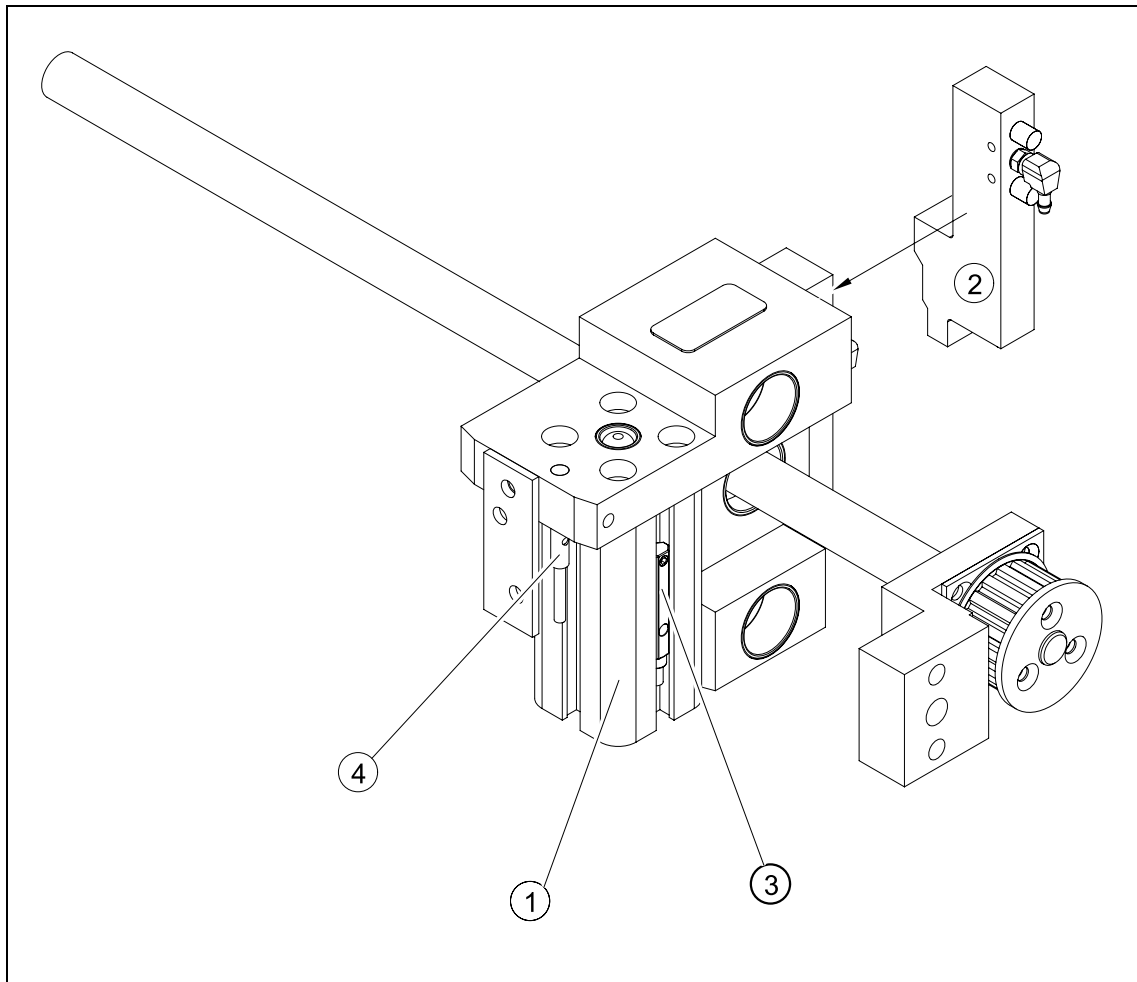

Fig. 6.13.27 Overview of the adjustment unit for the width adjustment system
- Undo and remove the screw fastening the connection plug (see also Fig. 6.13.27).
- Loosen the grub screw on the proximity switch (see also Fig. 6.13.27) and move the proximity switch out of the lifting table guide rail.
- Loosen the grub screw on the clamping device (see also Fig. 6.13.27) and extract the connection cable as far as the conversion board of the mounting tray.